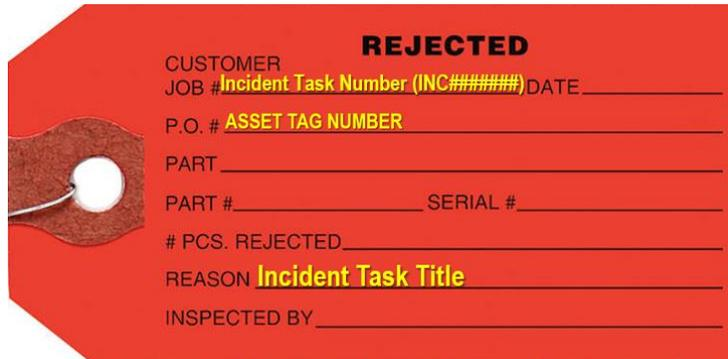

Figure 156. Red Rejected Tag for Defective Assets (MX104219)
2. Ship all defective equipment/assets with a red “Rejected” tag. Figure 156 displays the minimum information requirements for each tag.